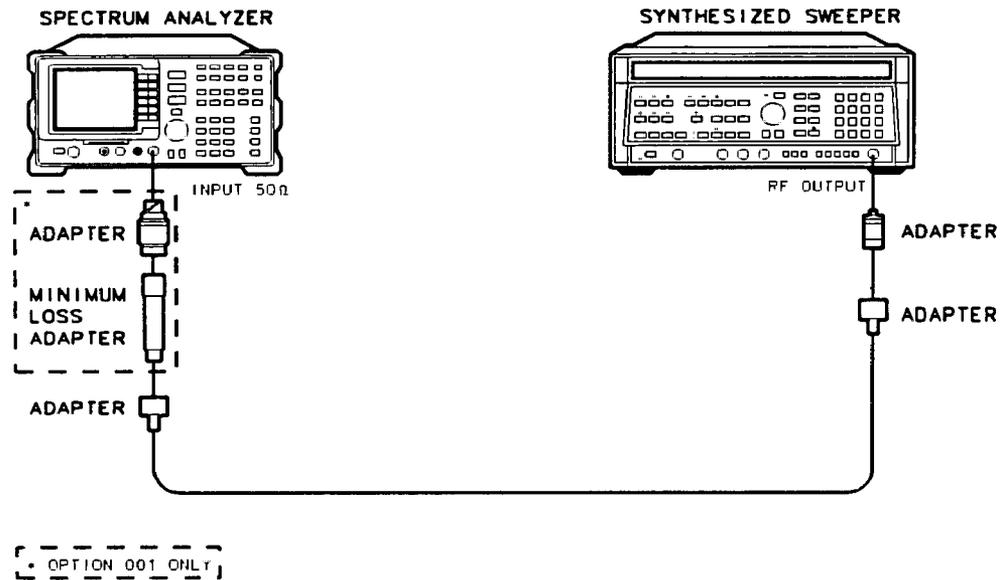

Figure 3-1. Frequency Drift Test Setup
2. Connect the equipment as shown in Figure 3-1.